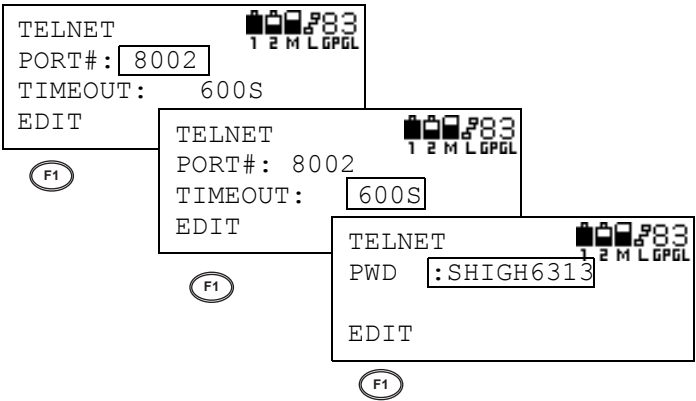

Figure 3-88. Press F1 when Changing Each Parameter
4. Press **F1** (CHG) to change Telnet parameters (Figure 3-88). See “Selecting Parameters” on page 3-10 for details on this procedure.